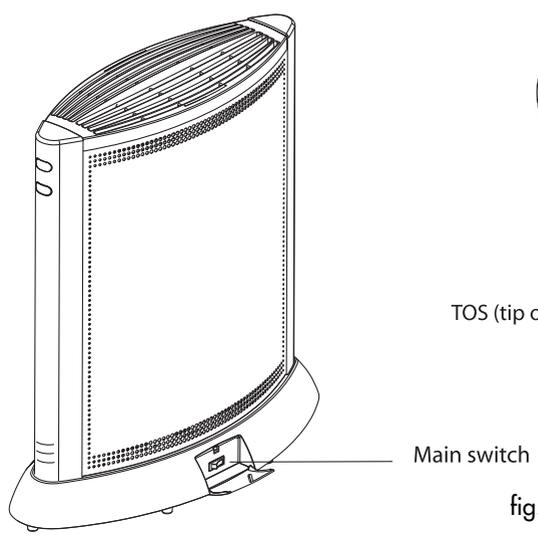

fig. 2
- To start the appliance, open the door at the back (see fig. 2) and turn the main switch on. " - -: - - " is displayed.